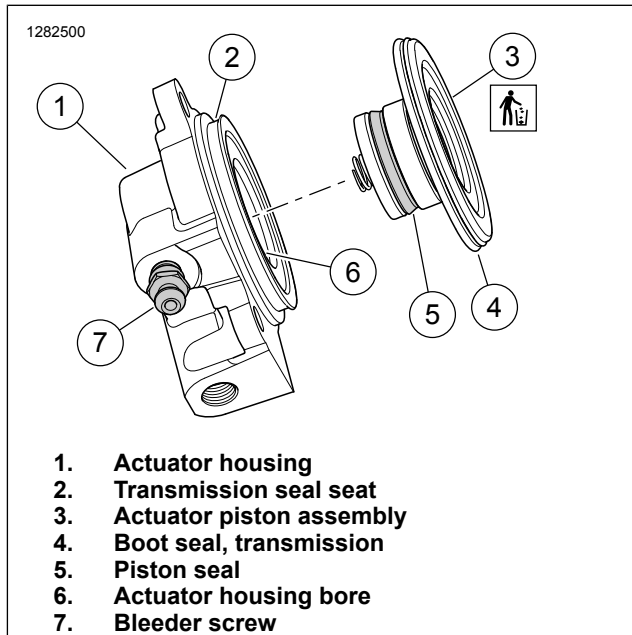
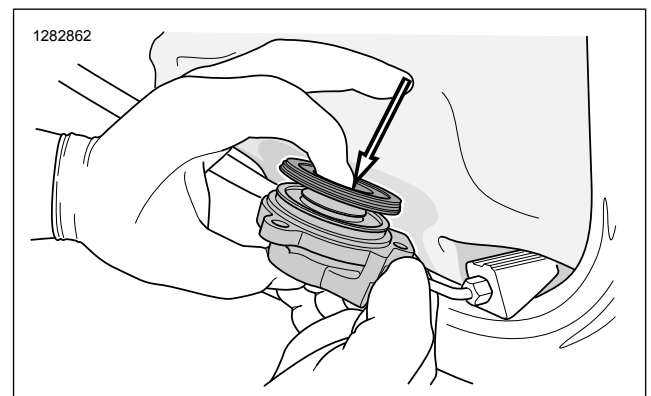

Figure 3. Secondary Actuator Assembly
Figure 5. Installing Actuator Piston Assembly
1. Refer to Figure 3. Remove the actuator piston assembly (3).
- b. Refer to Figure 3. Remove the transmission seal boot from the transmission seal seat (2).
- c. Remove piston assembly from actuator housing (1).
2. Refer to Figure 3. Clean actuator.
2. Refer to Figure 3. Remove **new** actuator piston assembly (3) from packaging.
- a. Align **new** actuator piston assembly squarely to the actuator housing bore (6).
- b. Refer to Figure 5. Push down on center of piston until fully seated in bore.
- c. Refer to Figure 3. Install the transmission boot seal (4) around the transmission seal seat (2).
- b. Refer to Figure 3. If hold-in test continues to fail, remove actuator piston assembly (3) and inspect piston seal (5) and actuator housing bore (6). Refer to Section Clean and Inspect.